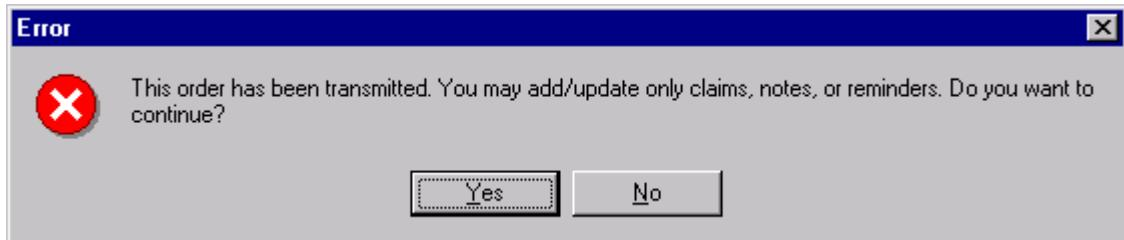

Figure 3-2. Error Message
- For a Monograph or Serial order that has already been transmitted, you will first see an Error message (Figure 3-2) informing you that only claims, notes, and reminders can be updated. Then the View Order window appears.